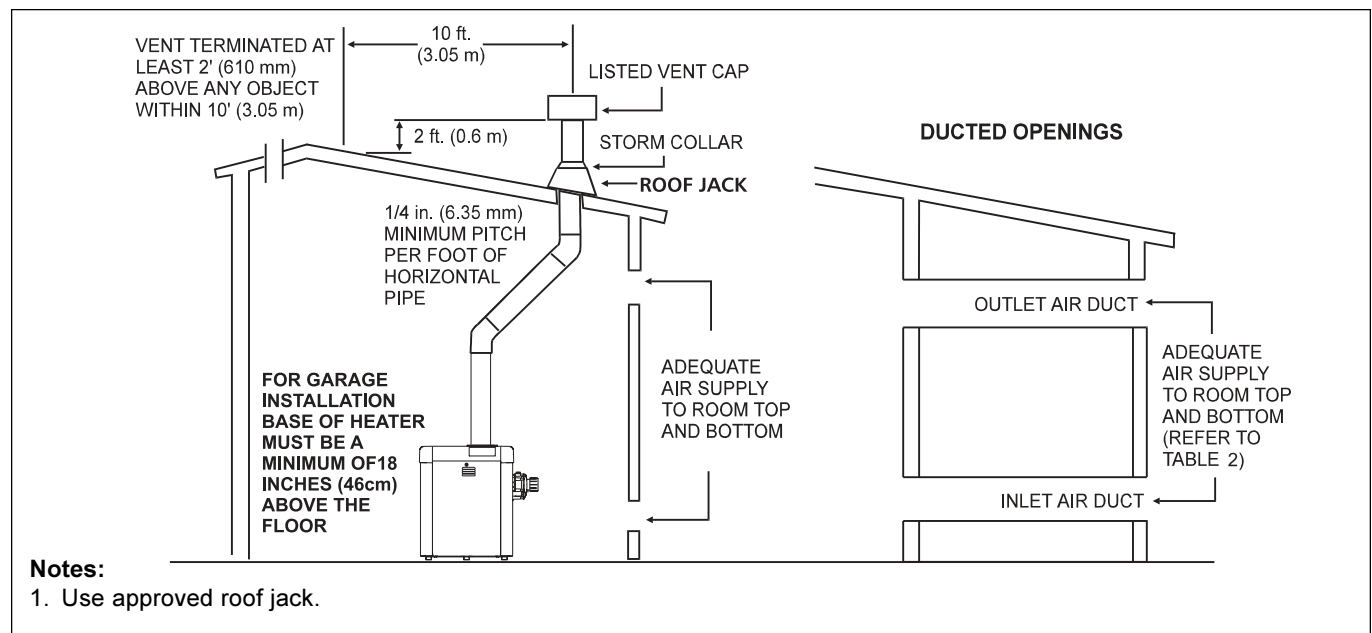

Figure 7. Indoor Installation Venting (USA), or Outdoor Shelter (Canada).
In general, these requirements specify that the room in which a heater is installed should be provided with two permanent air supply openings; one within 12 inches (305mm) of the ceiling, the other within 12 inches (305mm) of the floor. All indoor installations must have openings to outside air for combustion, ventilation, and dilution of flue gases from inside the building (see Figure 7 and Table 2). Water Pik Technologies does not recommend indoor installations that do not provide combustion air from outside the building.
louvers, grills or other protective covers (see Figure 7 and Table 2 notes).
The vent collar outlet is to be connected to an unobstructed vent pipe of the same diameter, terminating outside the building. The vent must terminate at least two (2) feet (0.6 m) above the highest point of the roof or other object that is within ten (10) feet (3.0 m) of the vent termination. The vent pipe must have a listed vent cap which allows a full equivalent opening for flue products (see Figure 7).